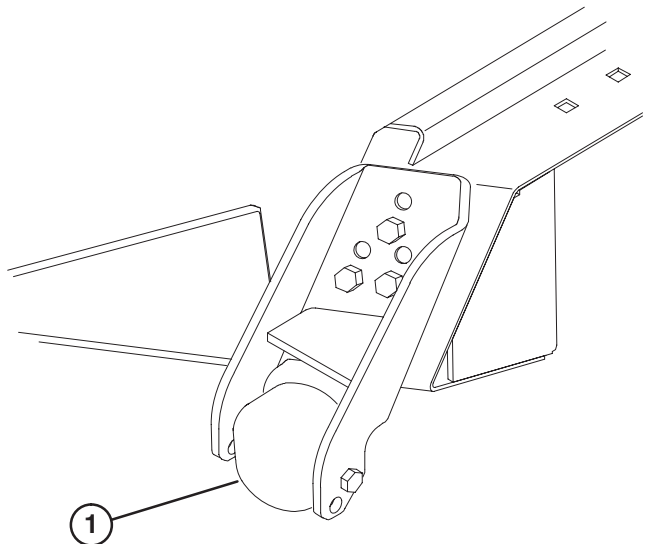

Figure 25
1. Adjust anti-scalp rollers by removing screw securing roller shaft to deck, positioning roller as desired, and reinstalling shaft with screw, washers, and nut (Fig. 25).